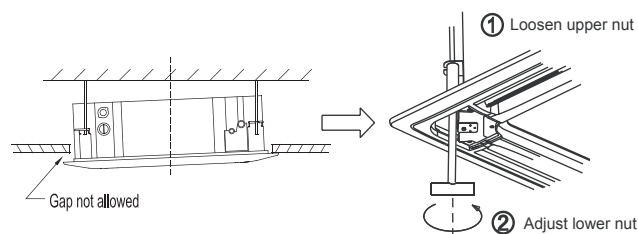

Fig.5-13
- If the gap between the panel and ceiling still exists after fastening the screws, the height of the indoor unit should be modified again. (Refer to Fig.5-13-left)
- You can modify the height of the indoor unit through the openings on the panel's four corners, if the lift of the indoor unit and the drainpipe is not influenced (Refer to Fig.5-13-right).